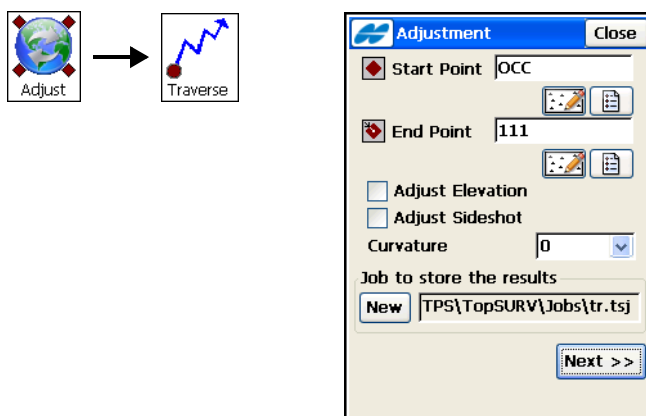
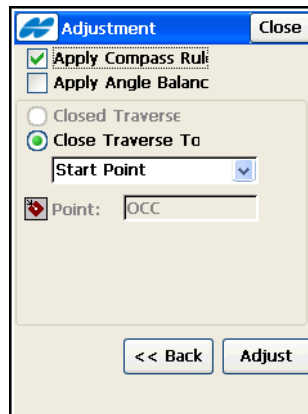

Figure 10-27. Traverse Adjustment
Figure 10-28. Adjustment
1. On the first **Adjustment** screen (Figure 10-27), select initial data for traverse adjustment: the stations on which the traverse originates and closes, whether to adjust elevations and sideshots or not, an Earth curvature value, and a job to store adjusted traverse stations. Then tap the **Next** button. The second **Adjustment** screen displays (Figure 10-28 on page 10-25).
2. On the next **Adjustment** screen (Figure 10-28 on page 10-25), select the method of traverse adjustment to apply (check and enable either *Apply Compass Rule* or *Apply Angle Balance*), and a technique to close the traverse if it is unclosed.